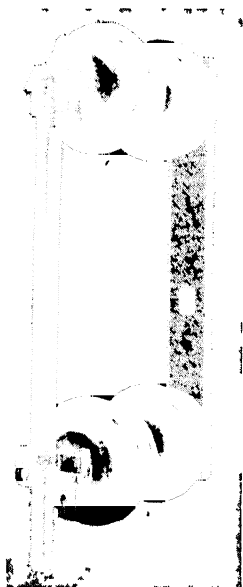

FIG. 7-21 External view of power fuse of boric acid type in position in fuse mounting. Fuse drops out when blown (Courtesy S. and C. Electric Co.)
**Boric Acid Fuse.** The interrupting medium in this fuse is compressed boric acid. It is pressed into cylindrical blocks with a hole in the center of the block forming the bore. When an arc is drawn in the boric acid tube, the generated gas consists principally of steam formed from the water of crystallization of the boric acid. Steam is less readily ionized than organic gases and thus helps to maintain high dielectric strength around the fuse under operating conditions. There is no flame discharge when the fuse operates. (See Figs. 7-21 and 7-22.)